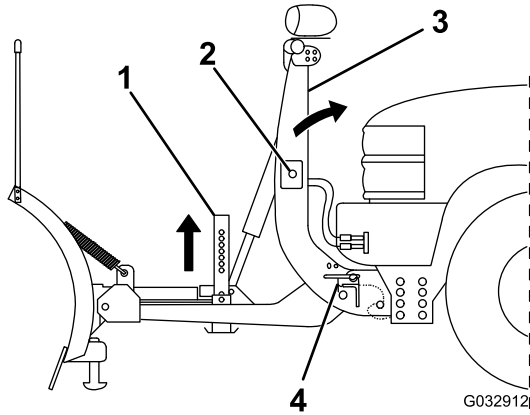

Figure 18
5. Push the SmartHitch2 switch on the side of the coupler tower upward and raise the tower until the coupler spring pins snap in (Figure 18).
7. Pull the kickstand spring pin outward and raise the kickstand, then release the spring pin to secure it (Figure 18).